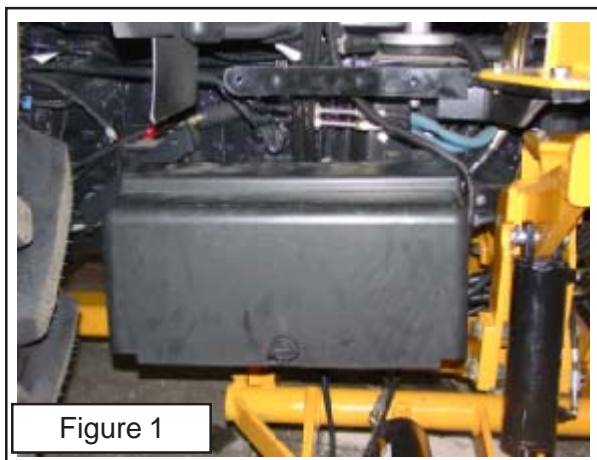

Figure 1
2. As a result of the cylinder mount position on the right side, the battery support will no longer completely hinge outward. However, the battery can still be accessed and even removed with the assistance of one additional person. Notice: The "special order" kits will include a battery relocation bracket (See Figure 1), however it was designed for use with 18.4-30 rear tires only. Hence, the dealer/customer is responsible for any necessary modifications.